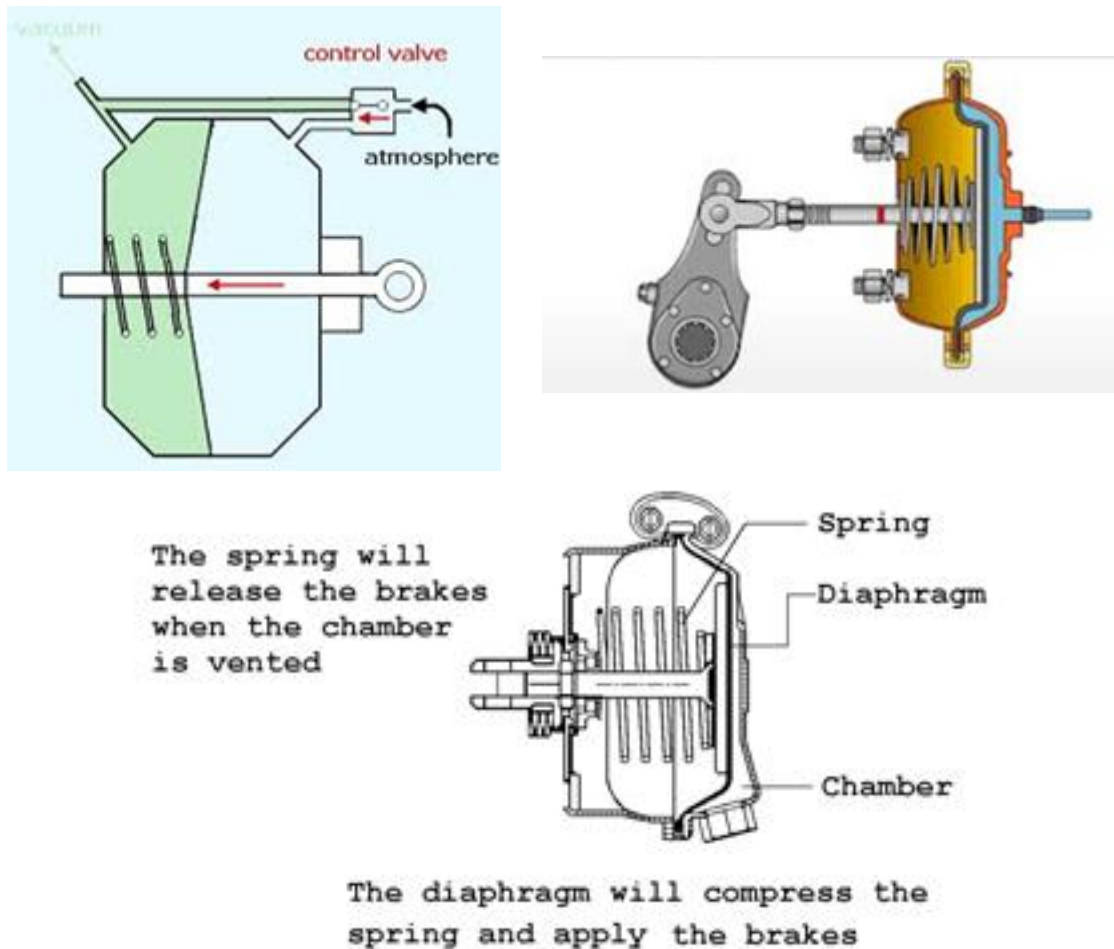

Fig.17
- Single chamber brake booster (Fig.17)